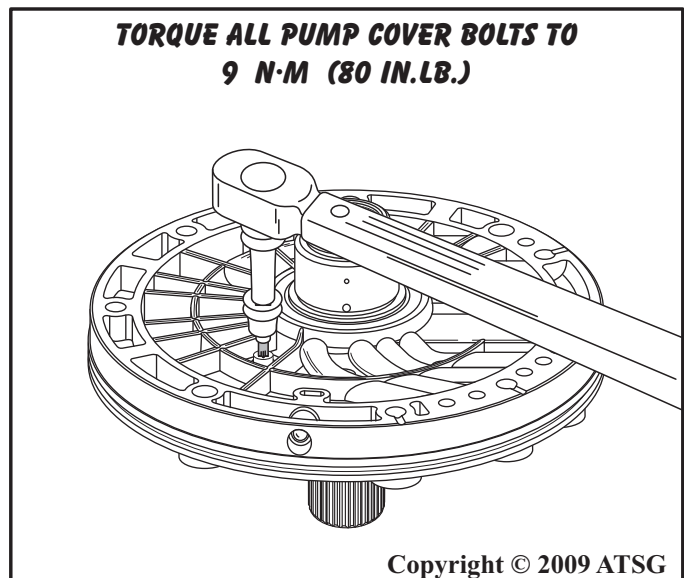

Figure 92
15. Torque the nine pump cover to pump body retaining bolts to 9 N·m (80 in.lb.), as shown in Figure 92.